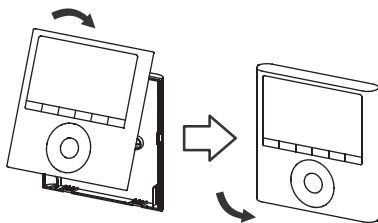

Fig 3-7
- After adjusting the upper case and then buckle the upper case; avoid clamping the wiring during installation. (Fig 3-7)